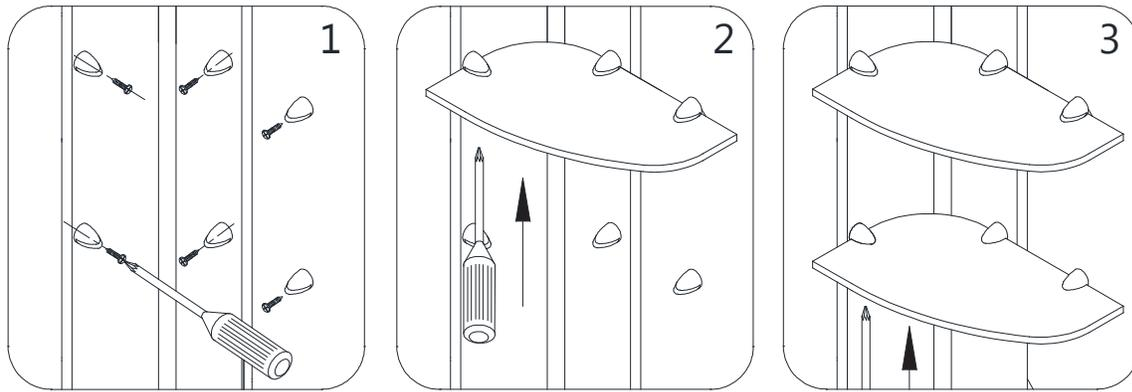

**Fig 26**
**26.** Mark the location for the **Shelf Brackets (#10)** according to the measurements in Fig 25.1. Drill the holes using **Ø5/16"** drill bit and insert the **Wall Anchors (#06)**. (**Fig 26**)